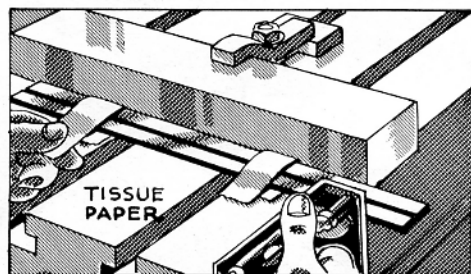

FIG. 306
11. Recheck the alignment of the work more accurately with the square. Place a piece of tissue paper between the work and each end of the blade. With the blade removed tap the work and continue to test until the same amount of "drag" is felt on both pieces of paper when they are withdrawn from between the blade of the square and the work (Fig. 306).